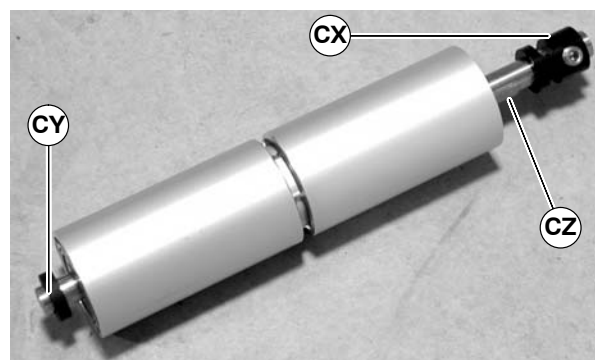

Figure 86
8. Remove the tension pulley locking collar (CX of Figure 86), spacer (CY) and pulley shaft (CZ) from the roller pulley shaft assembly.